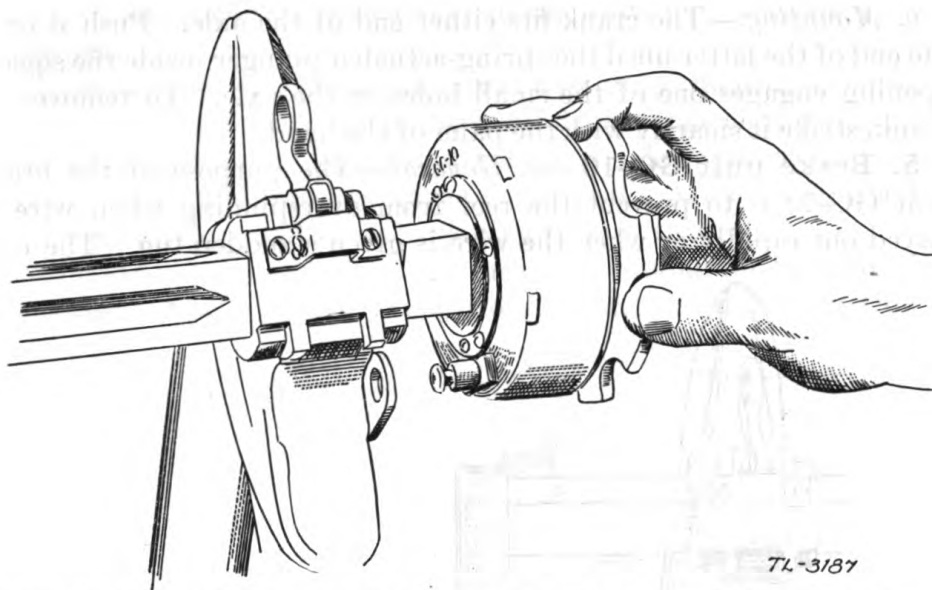

FIGURE 8.—To mount brake unit GC-10, slide it over the axle so that button lines up with lip on frame.
b. Mounting.—The unit fits over either end of the axle. It has a protruding, undercut button on its inside face that engages in a lip on the frame, just below the hinged cap of each bearing. Figures 8 and 9 show the method of mounting.